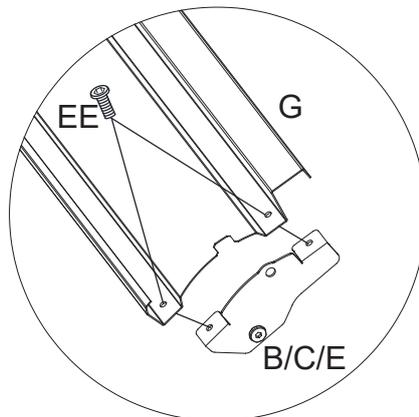

Figure 8.4
- 8.2. Assemble the other Louvers (G) in the direction of the arrows and secure them with Bolts (EE). See Figure 8.4.